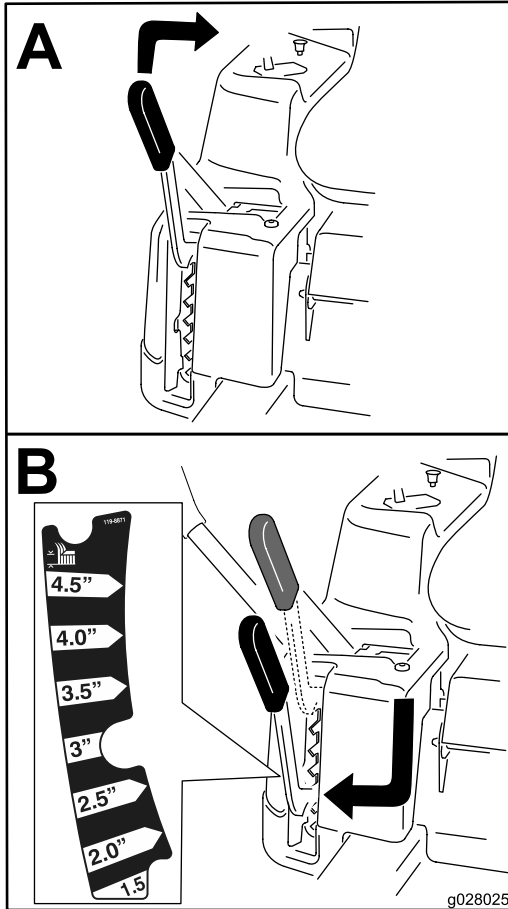

Figure 14
**Note:** The transport position is the highest height-of-cut position at 115 mm (4-1/2 inches) as shown in Figure 14.